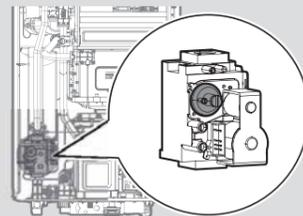

Figure 8. Set Screw Location
- c. Fully open several hot water fixtures and set the water heater to operate at 1-stage MIN mode (refer to page 8). Measure the CO₂ value at low fire. If the CO₂ value is not within 0.5% of the value listed in Table 2, the gas valve set screw will need to be adjusted. If adjustment is necessary, locate the set screw as shown in Figure 8. Using a 5/32 in or 4 mm Allen wrench, turn the set screw no more than 1/4 turn clockwise to raise or counterclockwise to lower the CO₂ value.